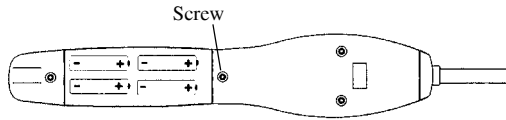

Figure 2
2. Install 4 AA Alkaline batteries observing the proper battery polarity as labeled inside the battery compartment and shown in Fig. 2